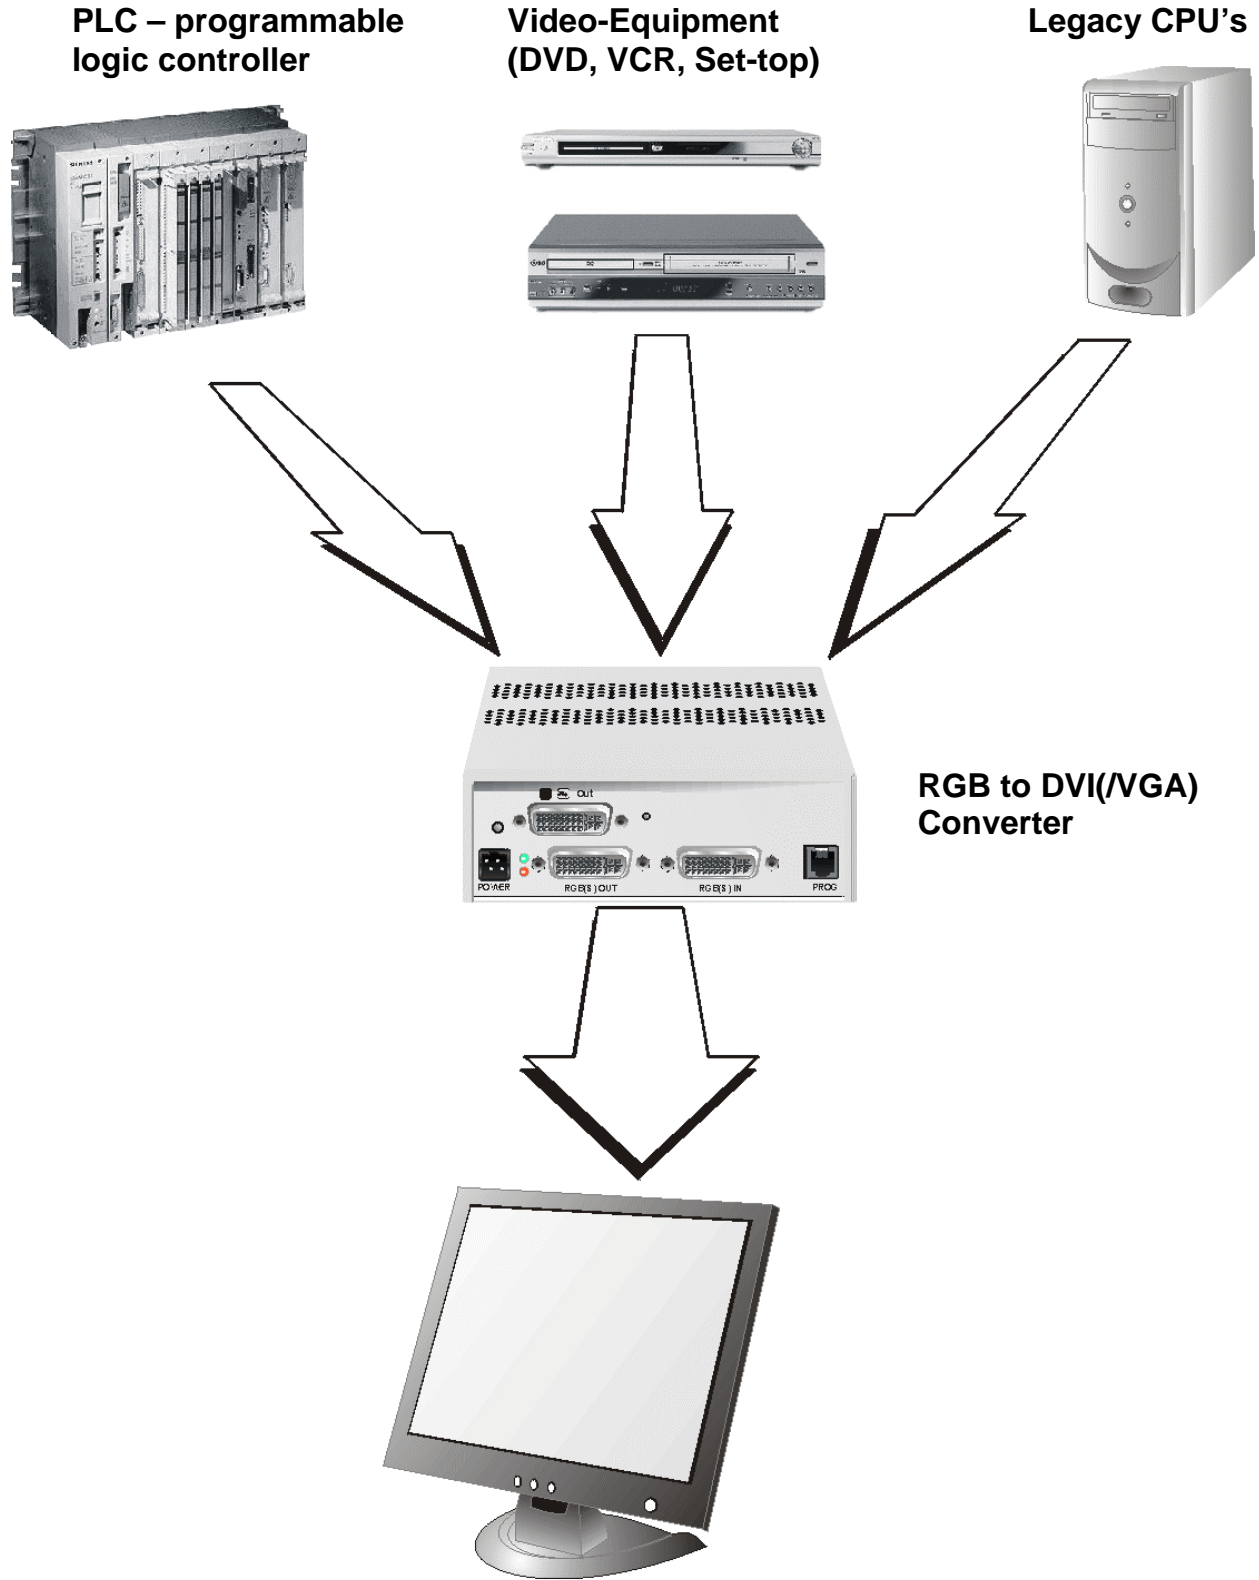

Figure 1 RGB to DVI(VGA) Converter system
3. Connect the graphic source to the input connectors as shown in Figure 1, using the equipped 4xBNC-to-DVI adaptor. Please note, for connecting a CGA or EGA source, connect the optional CGA-to-DVI adaptor or EGA-to-DVI adaptor instead of the 4x BNC-to-DVI adaptor.